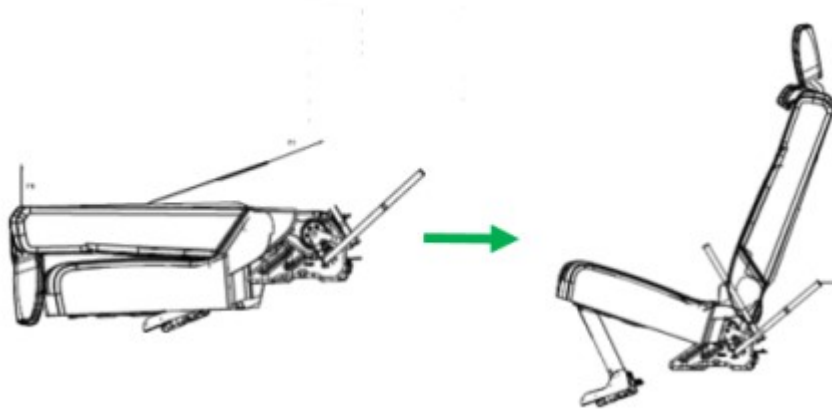

Fig. 1
1. Move the third row seat from the folded position, to the upright position (Fig. 1) . Does the seat lock in the first locking position?